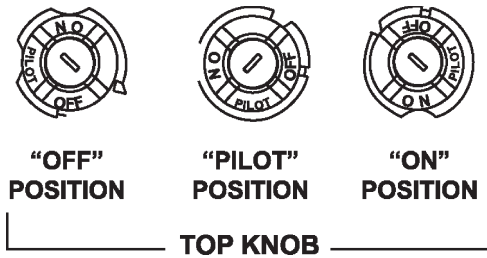

FIGURE 21.
7. Turn the gas control knob "A" clockwise to "PILOT". Depress the child safety lever and turn the control knob clockwise to "OFF" position, see Figure 21.